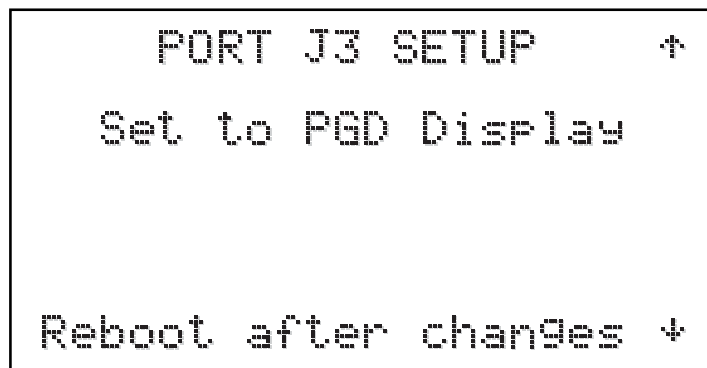

Figure 39
4.3.4.1.9 BMS Setup (Figures 39 - 43)
Selecting the BMS SETUP from the Commissioning Menu displays the PORT J3 SETUP screen (Figure 39). From this screen the J3 port can be set to drive a remote PGD display terminal, communicate via Modbus RTU, LON or BACnet MS/TP. The Ethernet port can be set to send data via Modbus TCP/IP or BACnet IP.